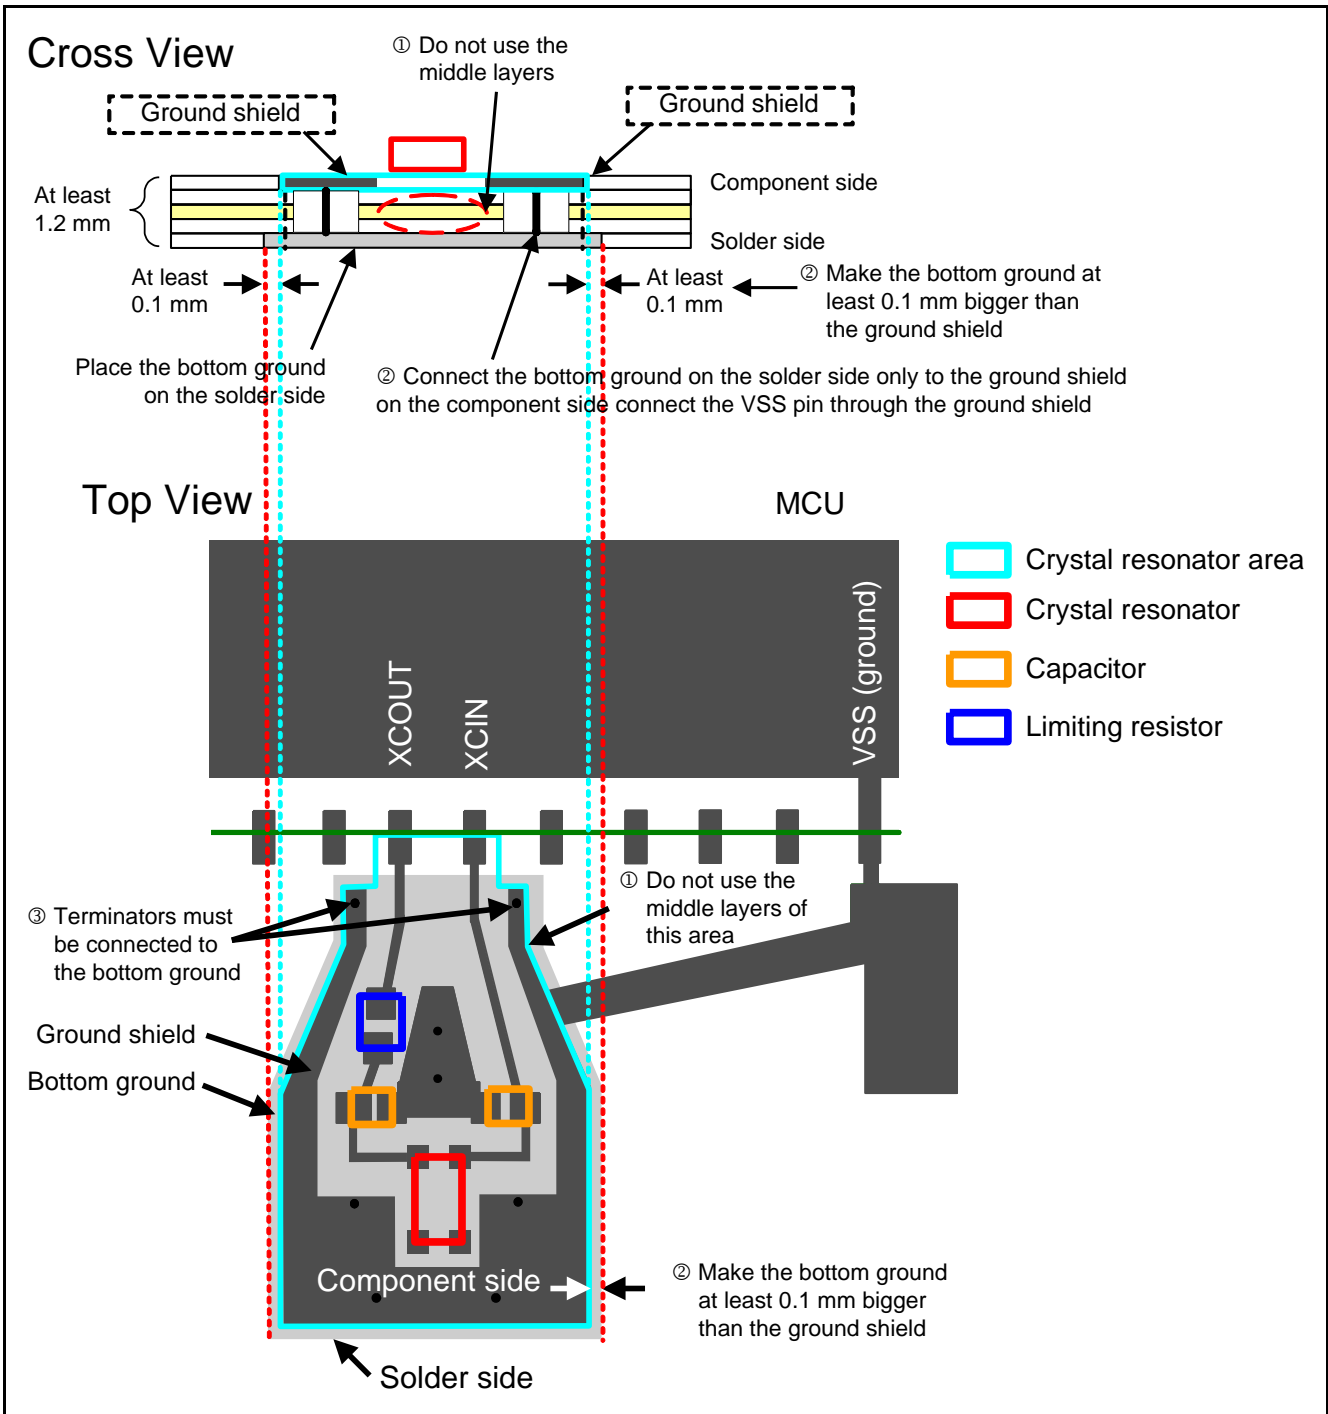
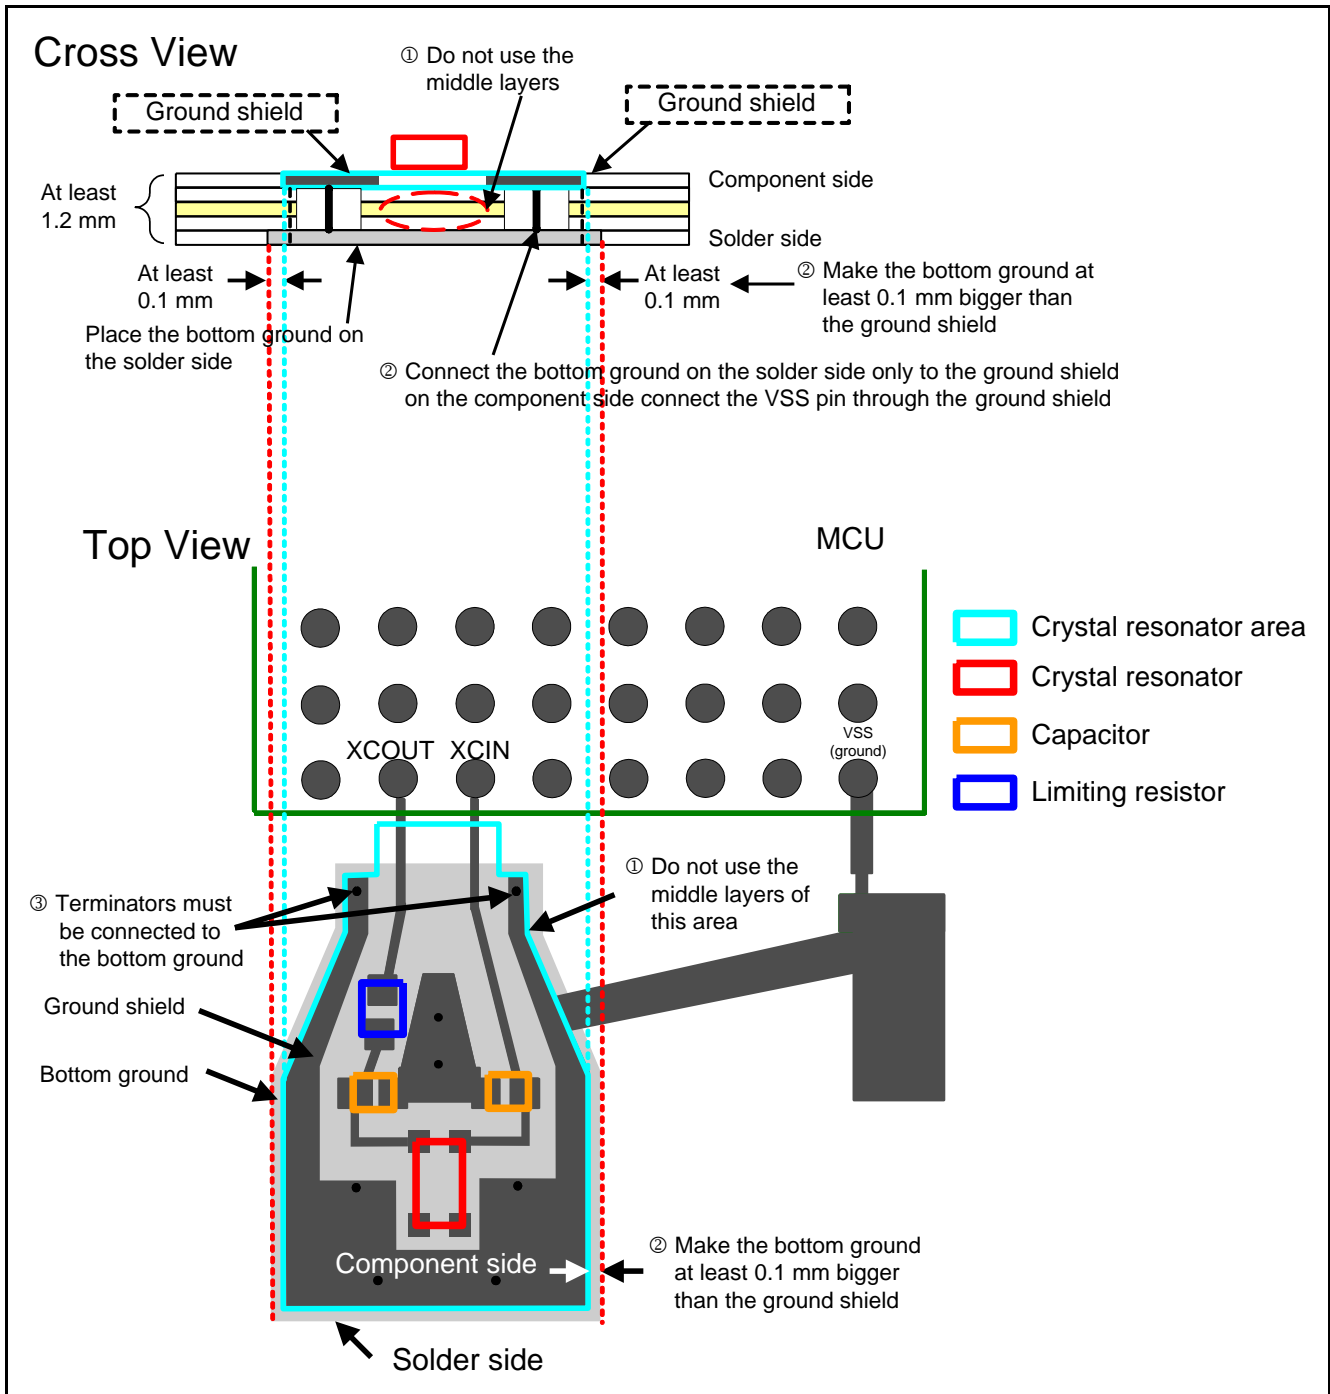

Figure 1.6 Trace Example If a Multilayered Board is at Least 1.2 mm Thick (When Using the LQFP, LFQFP, and HWQFN Packages)
Figure 1.7 Trace Example If a Multilayered Board is at Least 1.2 mm Thick (When Using the WFLGA and TFLGA Packages)
For boards that are at least 1.2 mm thick, lay out a ground trace on the solder side (hereinafter referred to as bottom ground) of the crystal resonator area (see Figure 1.6 and Figure 1.7).
① to ③ describe points when making a multilayered board that is at least 1.2 mm thick. Figure 1.6 and Figure 1.7 show trace examples.
- ① Do not lay out any traces in the middle layers of the crystal resonator area. Do not lay out power supply and ground traces in this area. Do not pass signal wires through this area either.
- ② Make the bottom ground at least 0.1 mm bigger than the ground shield. Connect the bottom ground on the solder side only to the ground shield on the component side connect the VSS pin through the ground shield.
- ③ Connect the ground shield terminator to the bottom ground.